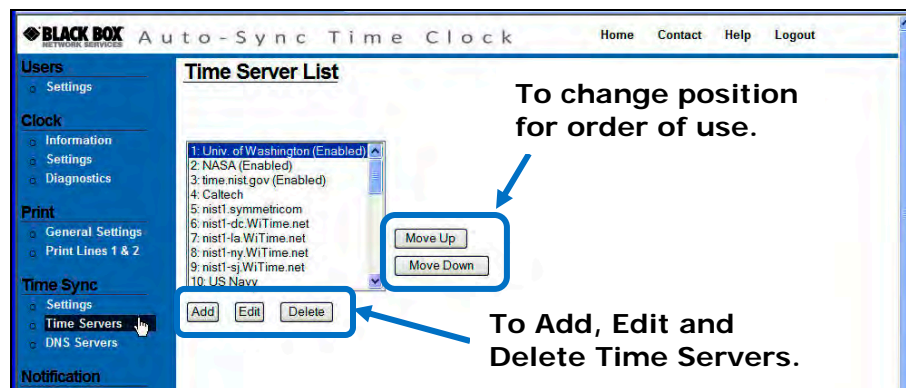

Figure 4-12. Time Server List.
1. Click on the **Time Servers** link under Time Sync, and the **Time Server List** screen will appear (see *Figure 4-12*). The Auto-Sync Time Clock provides 18 default Stratum 1 NTP servers for the user. Additionally, the user can add up to 14 additional time servers for a total of 32 time servers. The user can not delete any of the 18 predefined time servers, but any user created time server can be deleted. The time server order signifies the order that they will be tried for time synchronization, i.e., number 1, then number 2, etc.